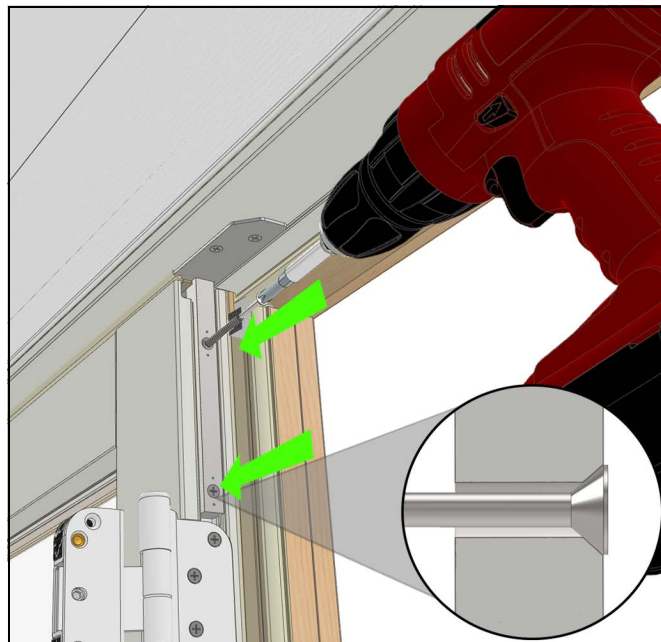

Figure 24
6. Install the 2-1/2" stainless flat head screw into the hole left by removing the panel screw. Drive until it sits flat with the lock bar face. Pre-drill and then fasten another 2-1/2" stainless screw into the other hole until it sits flat with the lock bar face. See Figure 24.